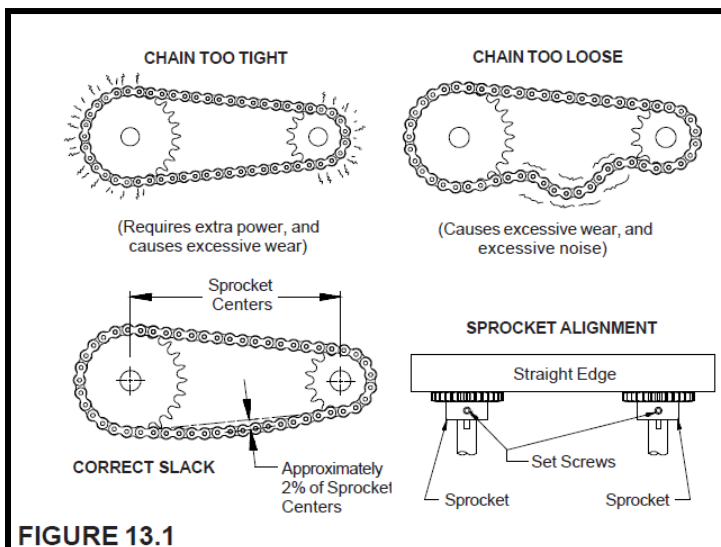

FIGURE 13.1
- 2) If belt on infeed end shifts to one side as illustrated, adjust snubber roller (C) as shown to steer belt to center of take-up pulley (B). See Figure 13.1.
- 3) If belt is riding at the center of take-up pulley (B) on infeed but is not at the center of drive pulley (A) on discharge, adjust drive pulley (A) as shown.
- 4) Adjusting drive pulley (A) may throw off alignment of take-up pulley (B). Repeat steps 2 and 3 as necessary.
Periodically check the drive chain and sprocket for proper tension and alignment. Extensive wear to the drive component could occur due to improper chain tension and alignment. Check chain tension to be certain the slack span has an approximate 2% mid-span movement. (See Figure 13.1)
Drive Chain Tension Adjustment Procedure (See Figure 13.1)